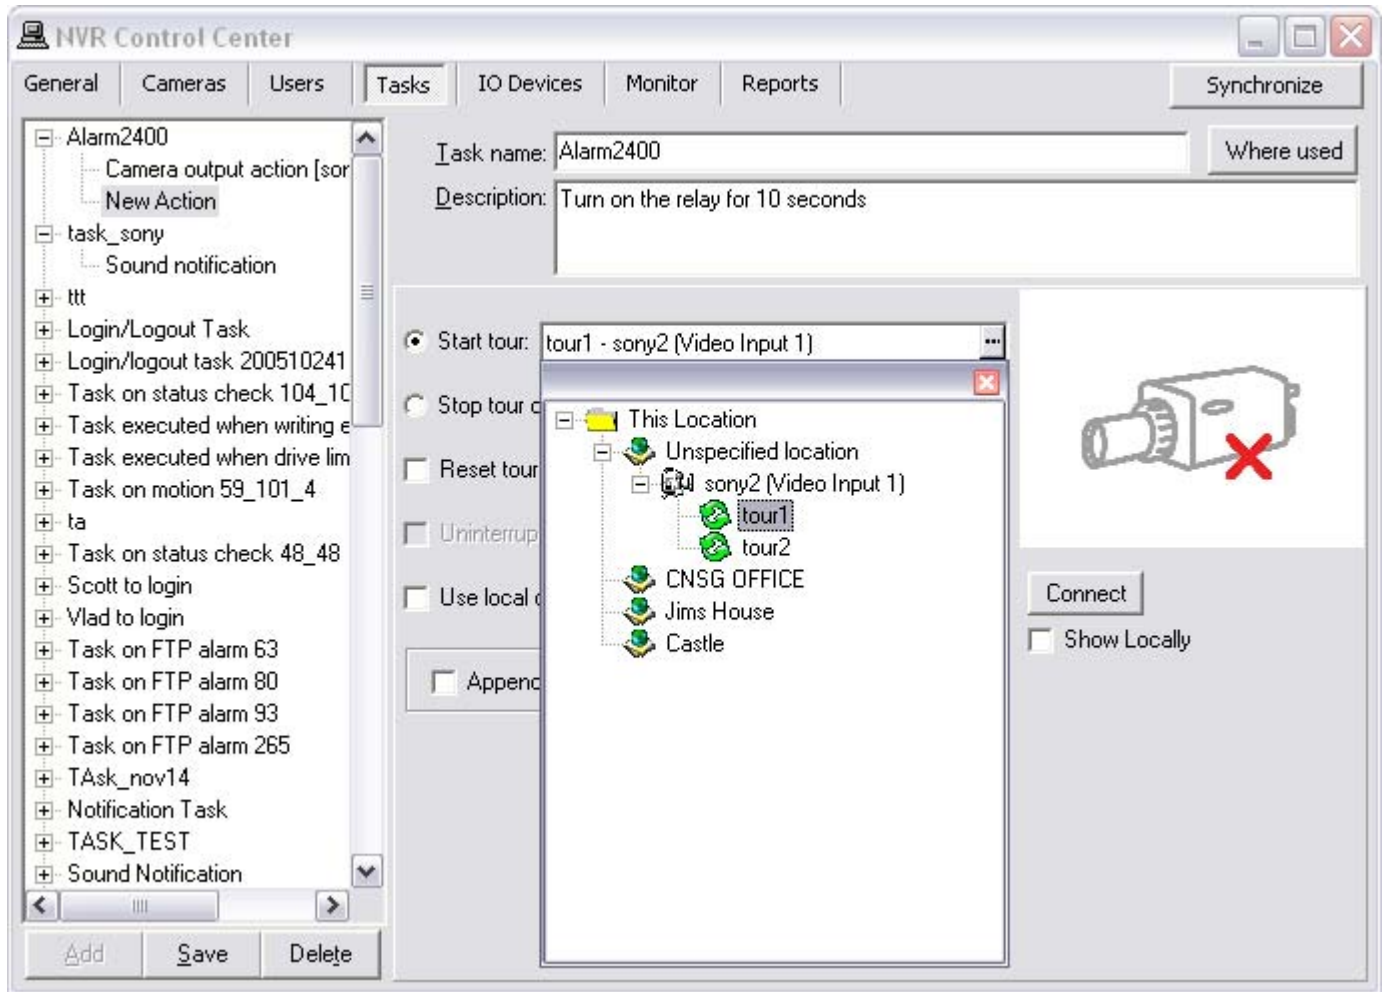

Fig 87. NVR Control Center — Tasks
1. Select a **Start Tour** or **Stop Tour on Camera** radio button to configure an appropriate Control Tour action (Fig 87).